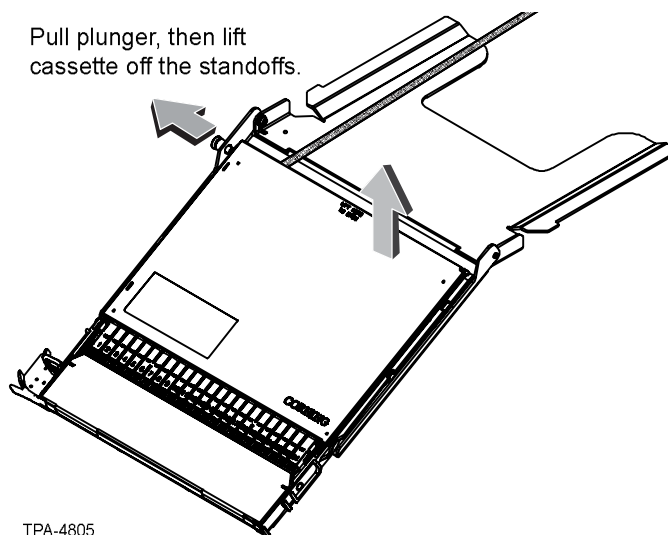

Figure 27
Step 23: If using the cassette service bracket, pull the plunger on the side and lift the cassette off the service bracket (Figure 27).